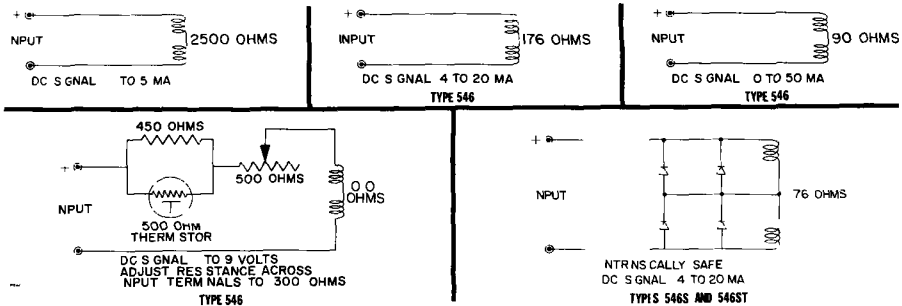

Figure 3 Typical Circuit Drawings
The electrical connections are made in the transducer case. A 1/2 inch NPT conduit connection is provided in the bottom of the case. Use a suitable conduit seal for hazardous locations. The wires that carry the milliampere signal from the controller are connected to the terminal strip (key 53, figure 6). The terminal strip is marked + and - to indicate the positive and negative terminals. For a direct acting unit (i.e., increasing current produces an increasing output pressure), connect the positive wire from the controller to the positive terminal of the transducer and the negative wire to the negative terminal. For a reverse acting unit (i.e., increasing current produces a decreasing output pressure), connect the positive wire from the controller to the negative terminal and the negative wire to the positive terminal. Typical circuit drawings are shown in figure 3.